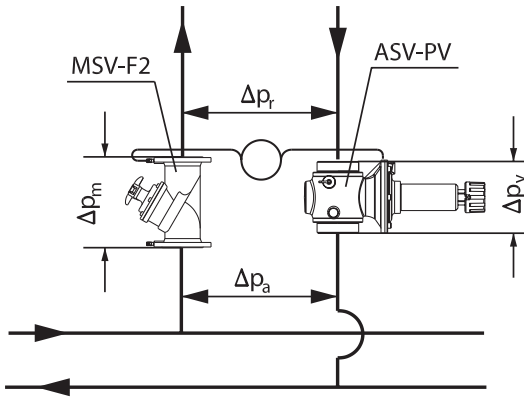

Fig. 1 Setting of  $ASV-PV = \Delta p_{riser}$
- partner valve outside the control loop (Fig. 1). Recommended configuration: it results in best performance since whole controlled pressure range is available to the riser. Flow limitation is done on each terminal unit in the riser.